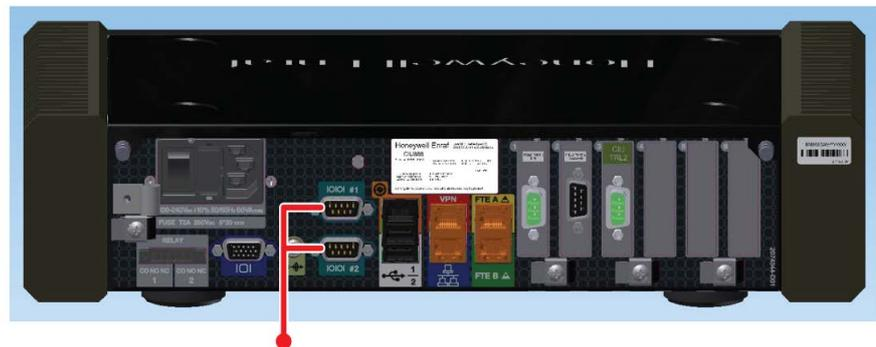

FIGURE 6-2 CIU 888: serial host ports
- One of the serial host ports located at the back of the CIU 888 using a serial cable (see FIGURE 6-2)